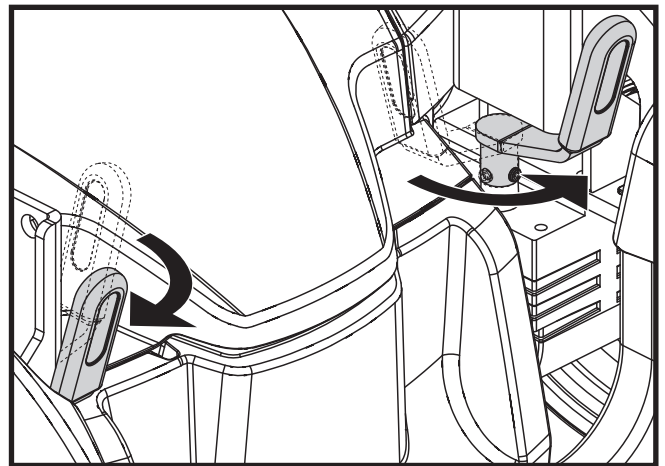

Figure 5. Freewheel Mode (Drive Disengaged)
3. Rotate both levers outward away from the seat to disengage the drive motors (freewheel mode). **See figure 5.**